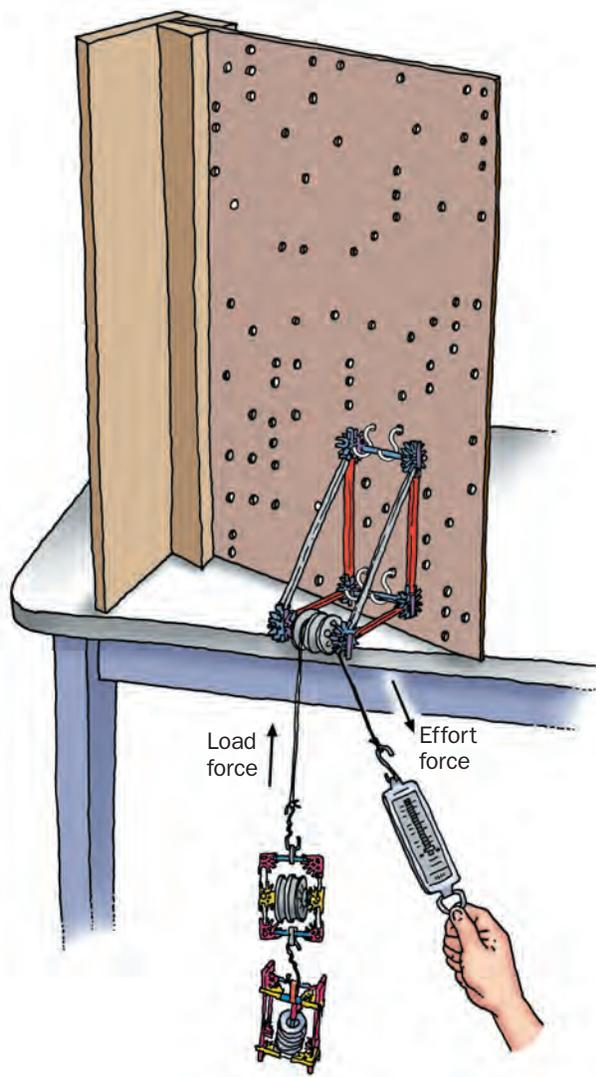

Figure 12.4 Raising the movable-pulley-and-sled combination using a single fixed pulley
4. Set up a single fixed pulley with the fixed pulley assembly attached to the pegboard, as shown in Figure 12.4. Use enough string so the movable-pulley-and-sled combination rests on the floor when the string is over the pulley.
5. Raise the movable-pulley-and-sled combination at a steady speed to a height of 0.10 m (10 cm) above the floor (see Figure 12.4). Work as a team to measure and record the following on your student sheet: